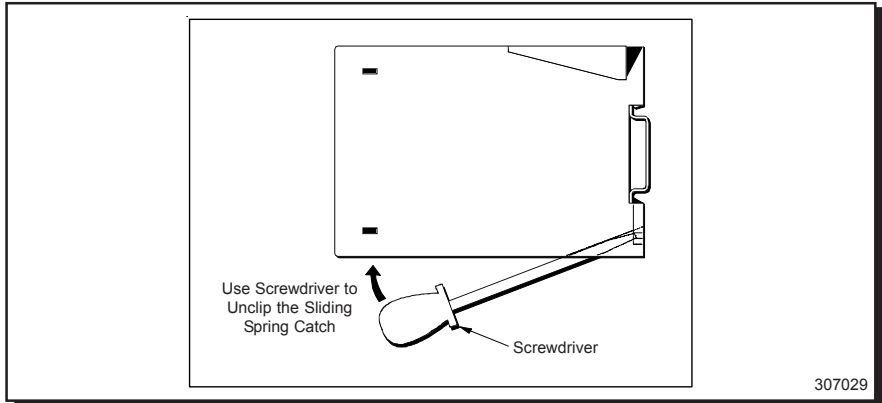

Fig. 29 - Removing a SN-W/E Interface Unit from a Standard DIN Rail
- Insert a flatblade screwdriver into the sliding spring catch, via the slot on the underside of the unit (see Fig. 29).